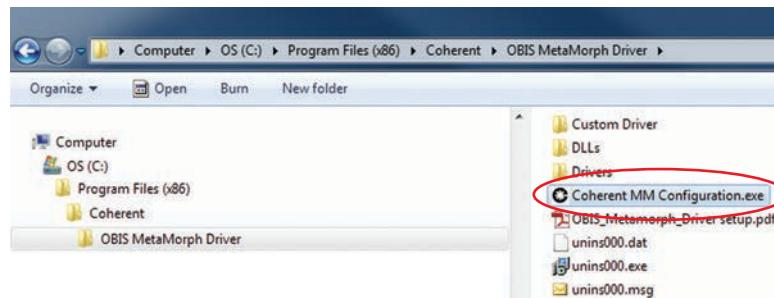

Figure H-3. Start Configuration Program
6. Start the *Coherent MM Configuration* program by double-clicking the **Coherent MM Configuration.exe** file, shown in Figure H-3: